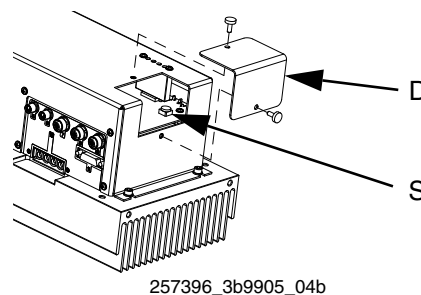

FIG. 9
The Motor Control Module uses an 8-position selector switch (S) to set system maximum working pressure. See **FIG. 9**.
2. Remove the access cover (D). See **FIG. 9**.
3. Set the selector switch (S).
4. Install access cover (D).